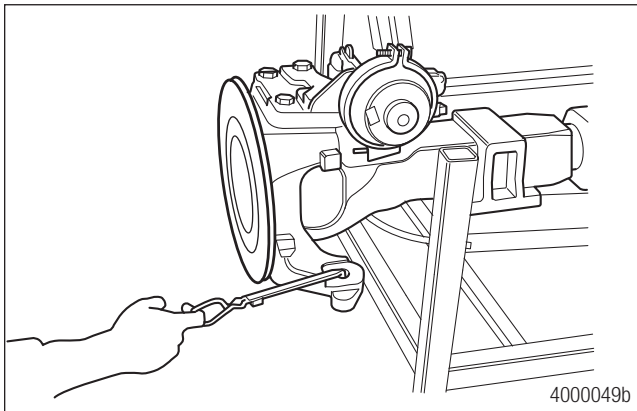

Figure 8.13
3. Read the pounds on the scale. Read the pull necessary to rotate the knuckle. The scale must read 10-30 lb (4.5-13.5 kg). Figure 8.13.